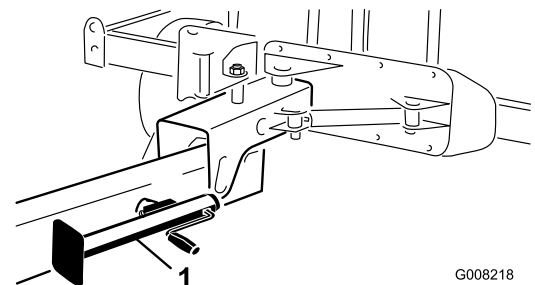

Figure 24
9. Lower the jack to the ground to stabilize the machine (Figure 24).